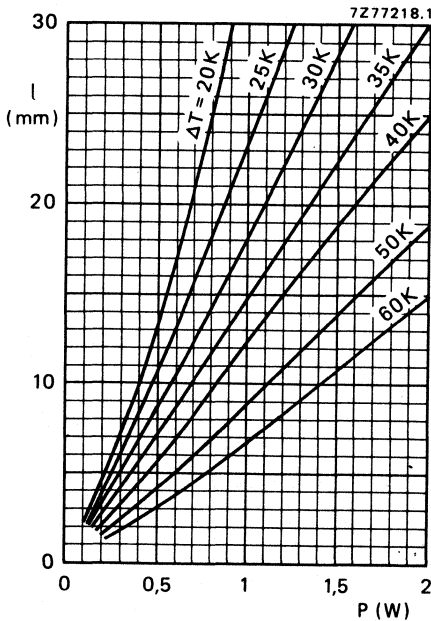

Fig. 5 Lead length  $l$  versus dissipated power with  $\Delta T$  as a parameter, leads  $\phi = 0,6$  mm.
- Lead length (l) as a function of dissipation with temperature rise at end of lead (soldering place) as parameter see Figs 5 and 6